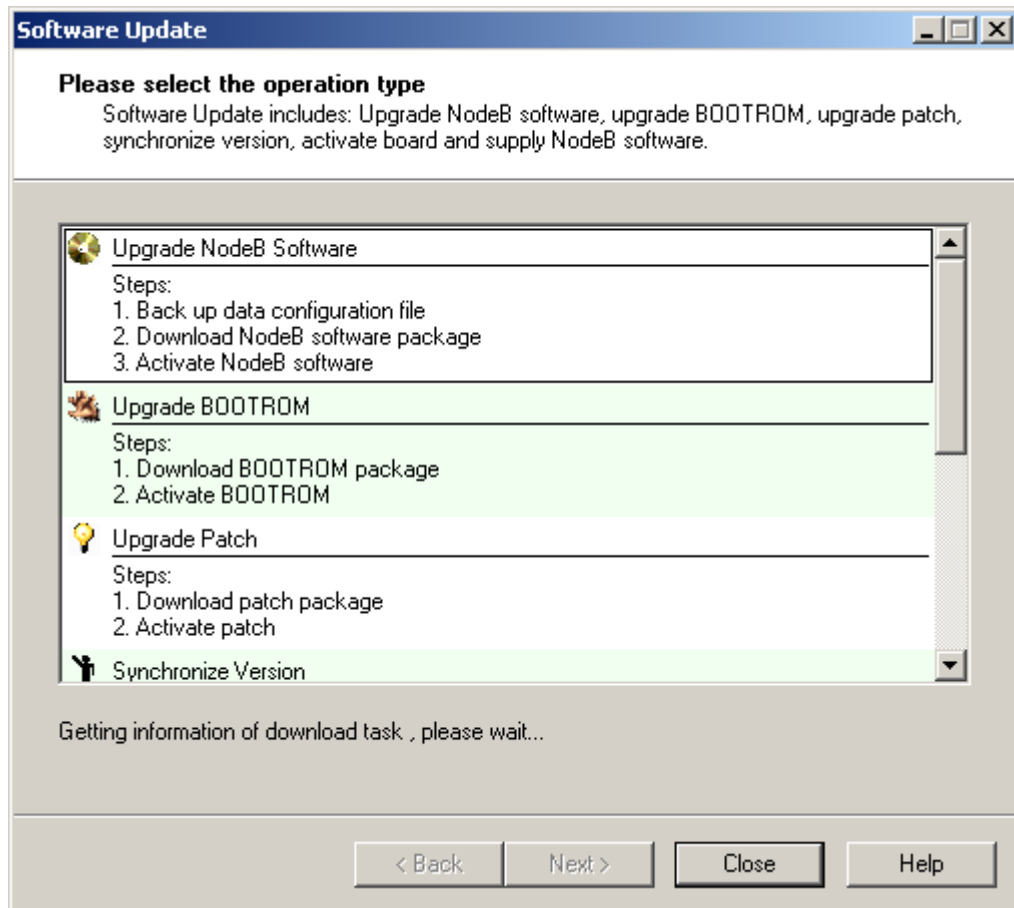

Figure 14-1 Software Update dialog box
- 1) Choose **Maintenance Navigator** -> **Software Management**. Then double-click the **Software Update** subnode. The **Software Update** dialog box opens up as shown in Figure 14-1.
The **Software Update** dialog box opens up as shown in Figure 14-1.